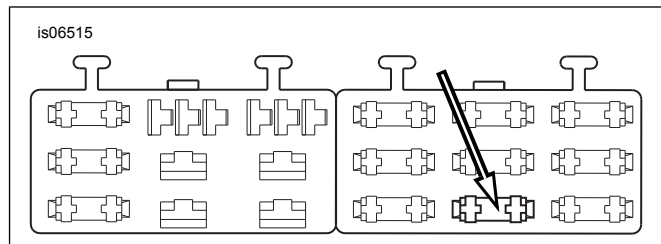

Figure 25. "OPEN" Fuse Block Cavity (2004-Later Dyna)
3. See Figure 25. Remove the ground screw (1), located:
4. See Figure 25. Locate the fuse cavity indicated as "OPEN" on the fuse block cover in the right fuse block. Insert the terminal on the orange/white adapter wire until it stops. Refer to a nearby factory installed terminal for comparison to verify proper orientation and depth.